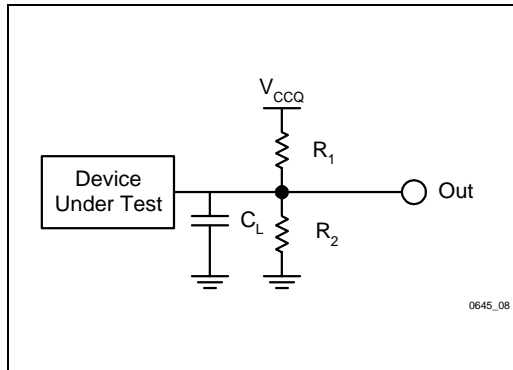

Figure 8. Test Configuration
4. See Test Configuration (Figure 8).
- See Test Configuration (Figure 8).